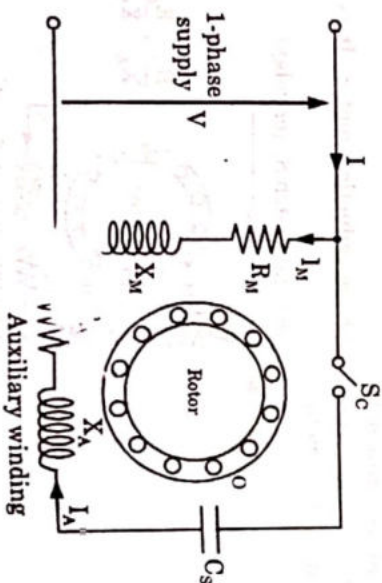

Fig. 4.31.2. Capacitor start motor
- Fig. 4.31.2 shows the connections of a capacitor-start motor. It has a cage rotor and its stator has two windings namely, the main winding and the auxiliary winding (starting winding).
- The two windings are displaced 90° in space. A capacitor C_s is connected in series with the starting winding. A centrifugal switch S_c is also connected as shown in Fig. 4.31.2.